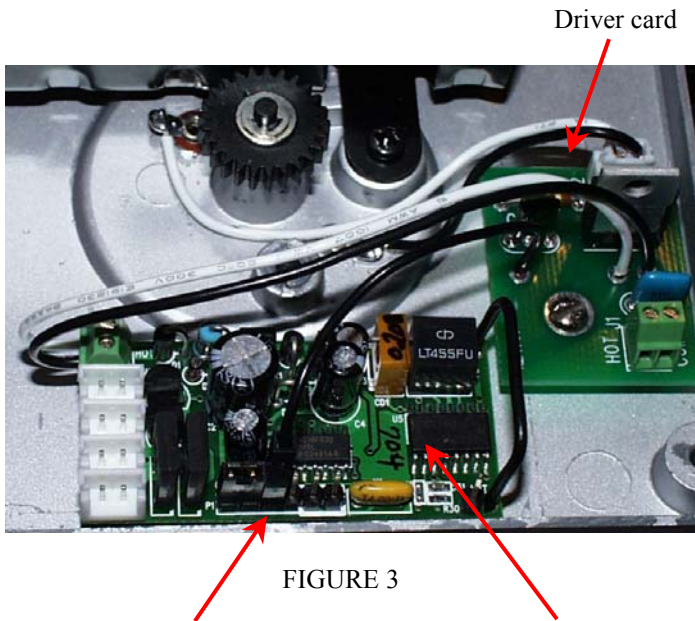

FIGURE 3
Step 5: Attach the driver card (Figure 3)
Step 6: Attach the Mini Commander (Figure 3)
Step 7: Connect the wires (Figure 3)